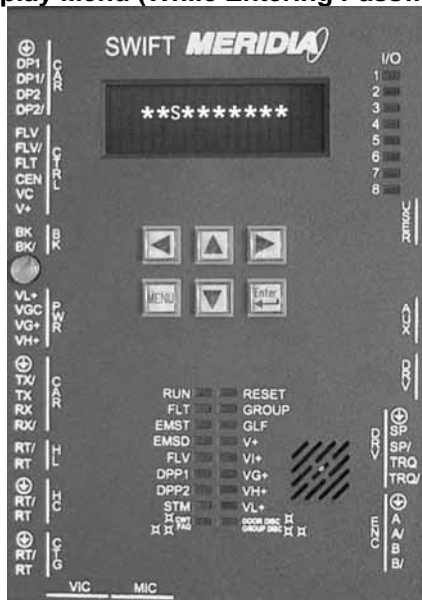

Figure 2-10
2. Verify the CCU front panel V+ LED stays lit green and display is active. [See Figure 2-10.]